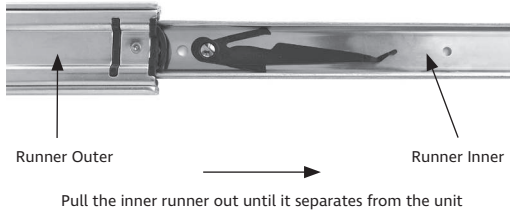

FIG 3a / 3b - Removing Runners
Step 1 – Separate the Runner Components (see Fig 3a & 3b)